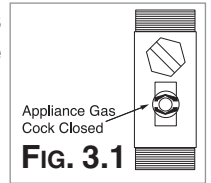

FIG. 3.1
- Ensure that the gas cock is closed (Fig. 3.1);